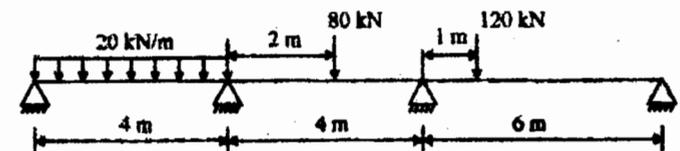

FIG 7
- (c) Analyse the continuous beam shown in fig 7 using flexibility method and draw BMD.